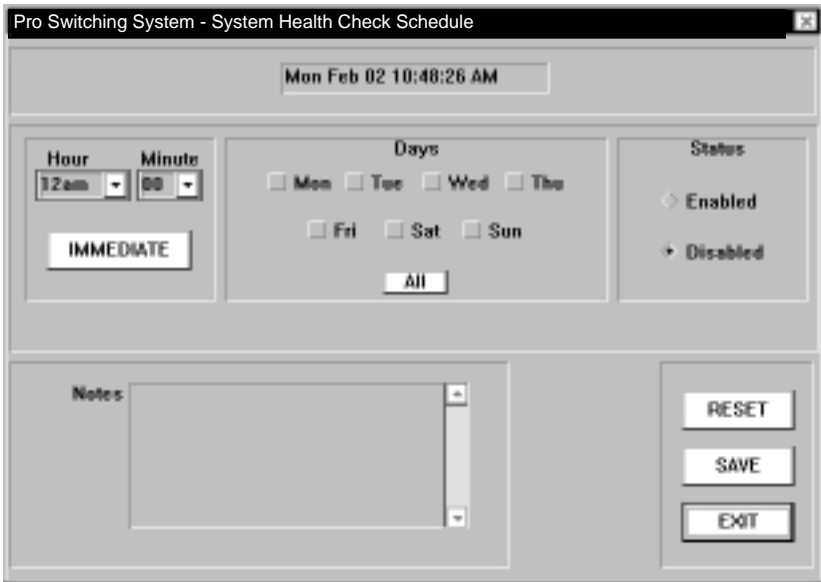

Figure 6-29. Health Check Schedule Screen.
1. From the main menu, select Pro Switching System, then Network, then Health Checks, System (All Sites). The System Health Check Schedule screen (Figure 6-29) appears.